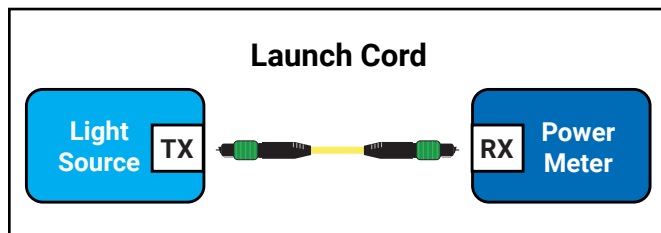

Figure 10f: Establish reference power
4. Connect the launch cord and receive cord between the light source and the power meter (see Figure 10f).